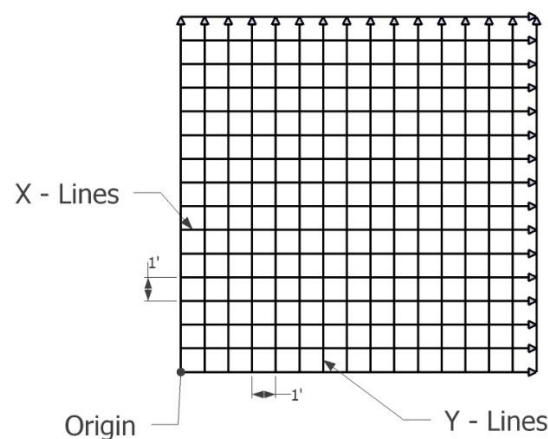

Figure 7-5: X-Lines and Y-Lines relative to the Origin.
Step 1 – Define the axis- Lines parallel to the Y-Axis are called Y-Lines. Similarly, lines parallel to the X-Axis are called X-Lines (Figure 7-5). Pick the origin of the grid such that it is the furthest corner away from any obstacles. This way, all the lines start properly, but they can be ended early if there is an obstruction.